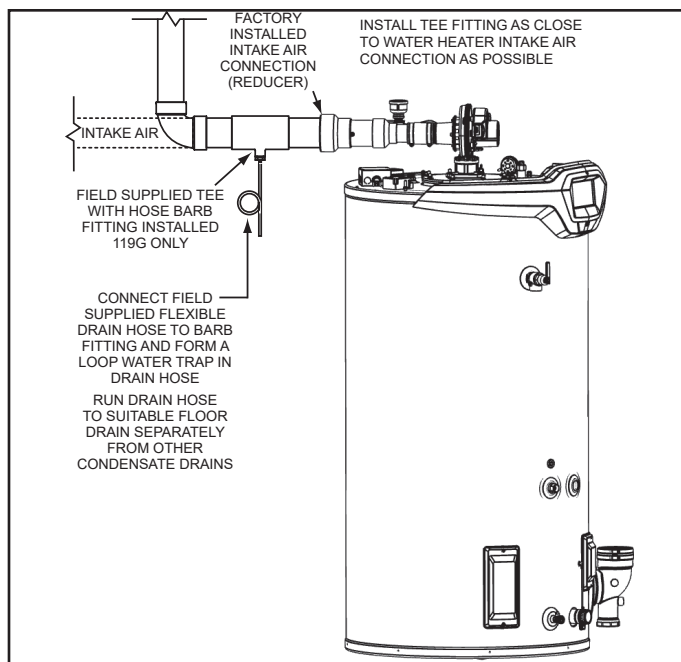

Figure 28. Intake Air Condensate Tee Installation
8. A field-supplied condensate tee fitting and drain hose must be installed in the intake-air piping near the water heater in colder climates with heavy snow accumulations and in areas that regularly experience high humidity. The drain hose must be routed to an adequate floor drain separate from any other condensate drain hoses. See **Figure 28** (page 35).
Installations with any of these conditions are required to provide a moisture drain with a trap that flows to a waste drain. See **Figure 28** (page 35) and **Figure 46** (page 43) through **Figure 52** (page 45). A horizontal section of the air-inlet pipe near the heater should include a 4" x 4" x 1/2" (119 gallon) and 3" x 3" x 1/2" (60/100 gallon) tee and a hose barb fitting to drain the water. The tee should be as close to the heater as is practical. The drain tubing in any installation should have a loop trap and flow to an appropriate waste drain. The air-intake drain line must be entirely separate from the exhaust vent outlet condensate drain line.